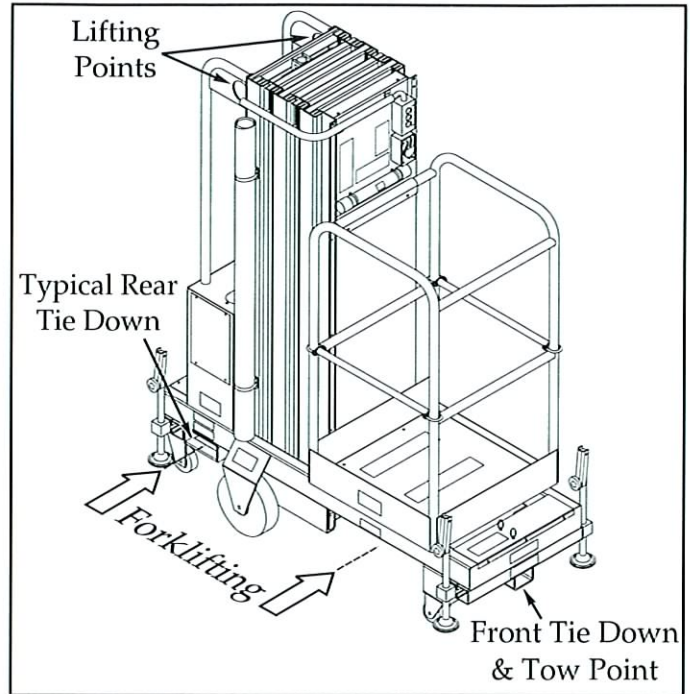

Figure 4: Transporting work platform
Forklift from the side by lifting under the base (Figure 4).
Secure straps to lift points only (Figure 4).
2. Secure the work platform to the transport vehicle with chains or straps of adequate load capacity attached to the base tie down points only (Figure 4).